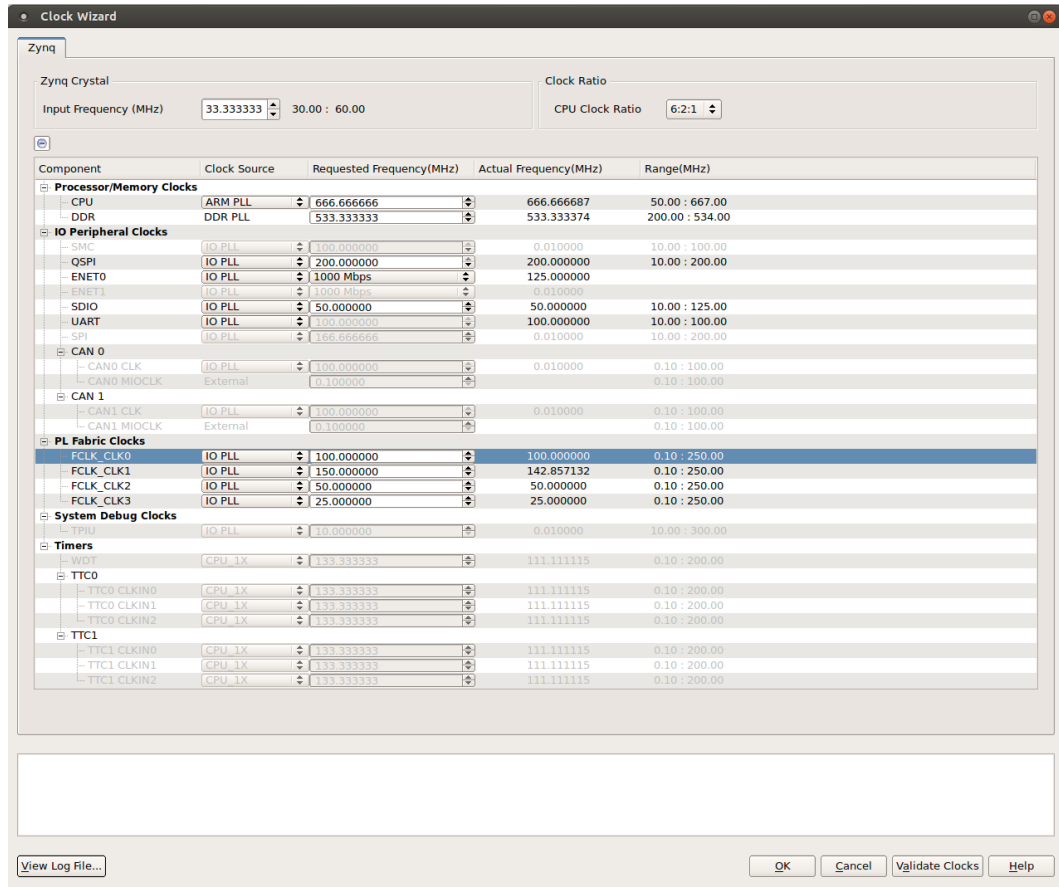

Figure 4.6.: Final Clock Wizard overview
3. Now the *Clock Wizard* should look like in Figure 4.6.